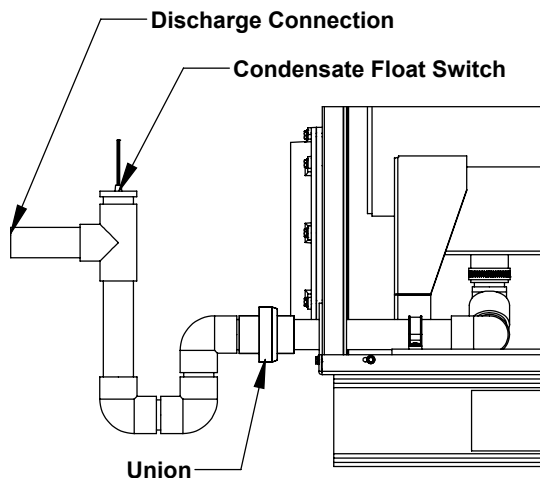

Figure 13: Condensate Trap Assembly
2. Install the condensate trap on the lower rear of the appliance as shown in Figure 13.